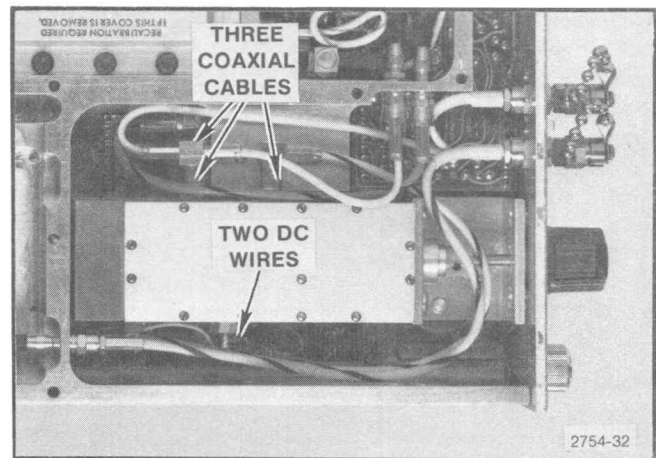

Fig. 5-7. Removing the 1st LO assembly.
6. Disconnect all cables and wires from A8. See Fig. 5-7.